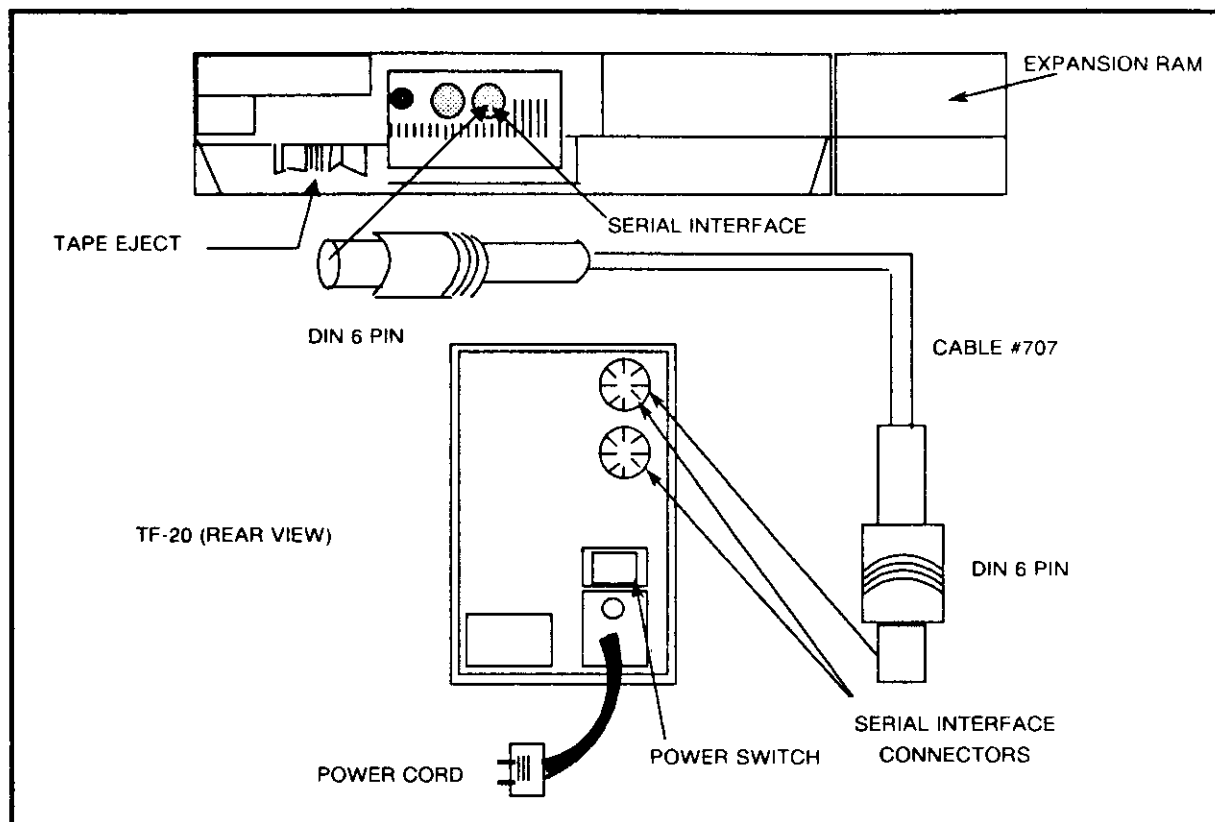

Figure 2.9 PMP Connections to Disk Drive
7. Connect the other end of the disk drive connector cable to a serial interface connector on the rear of the disk drive (Figure 2.9).